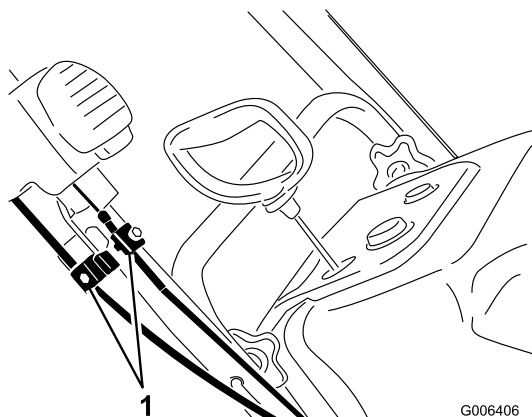

Figure 30
1. Loosen the two Quick Shoot control cable clamps (Figure 30).